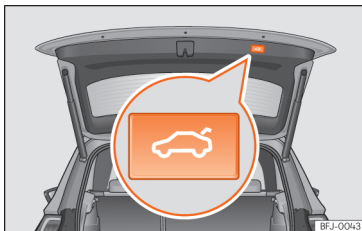

Fig. 10 Rear lid: button to close rear lid.
- Closing the rear lid: hold one of the handles on the inner trim and close it by sliding down, or press the button on the rear lid* »» Fig. 10.